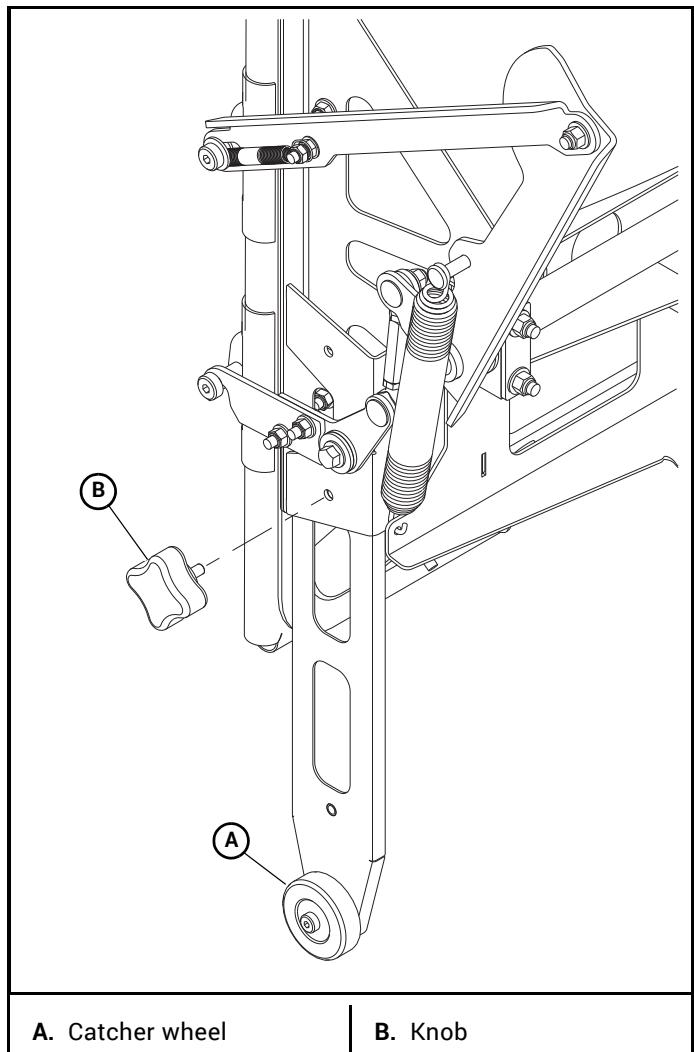

**Figure 3-8**
- 14.** Assemble and install the draw latch to the mount plate as shown. Figure 3-8 & Figure 3-9